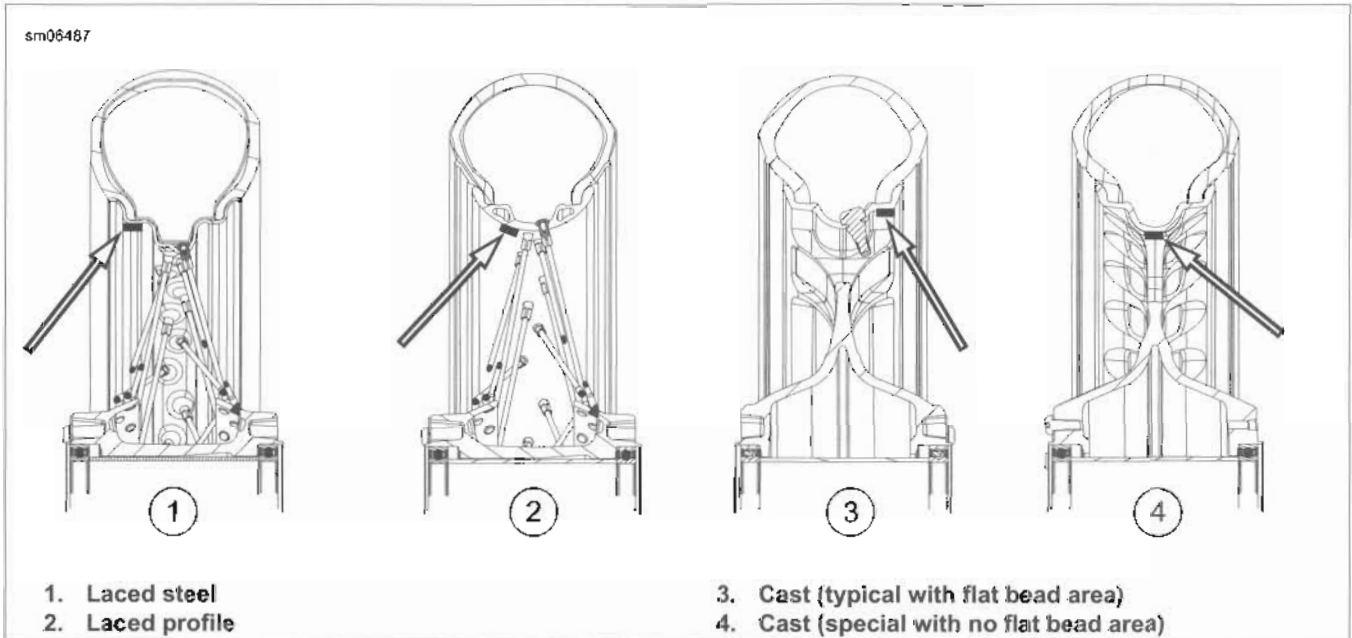

Figure 2-36. Wheel Weight Placement
1. See Figure 2-36. Place weights on a smooth surface of the wheel rim such that centrifugal force keeps them in place. Make sure that the area of application is clean, dry and free of oil and grease.